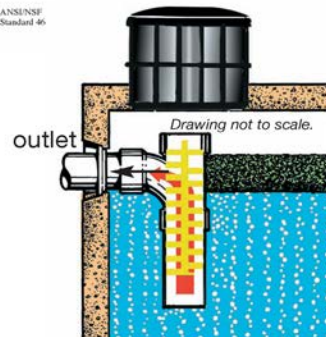

Figure 2:
Tuf-Tite Effluent Filters are designed to extend the life of your drainfield by preventing solids from leaving the septic tank. The filter fits into either a 4" or 6" Tee Baffle which in many cases is already attached to the outlet pipe. If a Tee Baffle is not installed, install as shown in Figure 2, allowing enough clearance from the end of the tank to permit easy filter access.
1. Insert the filter into the Tee Baffle with arrow on the top of the filter pointing toward the outlet pipe (as shown in Figure 1 and Figure 2).